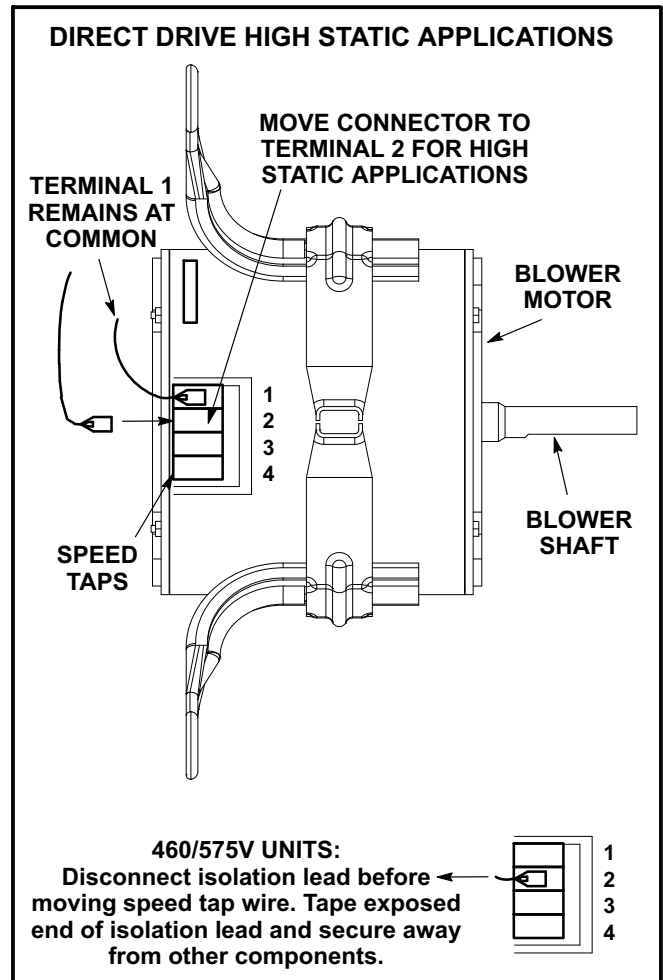

FIGURE 14
- 4- Use page 13 or 14, the measured static pressure, and the factory-set blower speed to determine CFM. If CFM is lower than the design specified CFM, move the lead from speed tap 3 or 4 to speed tap 2. See figure 14. Refer to table 1 for minimum airflow when electric heat is installed.